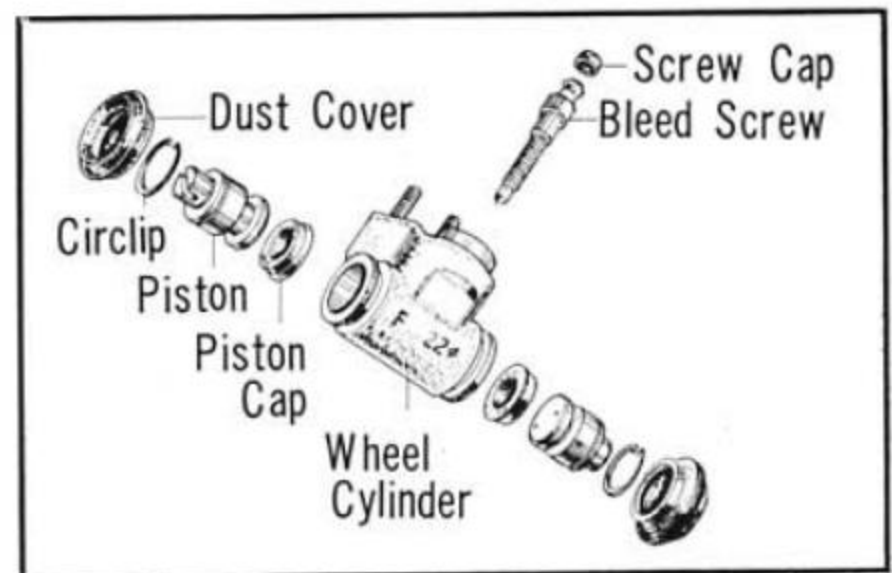

Fig. 13A-7
- Remove the brake anchor bracket setting bolts, washers and disassemble the brake anchor bracket from the anchor plate (Fig. 13A-8).